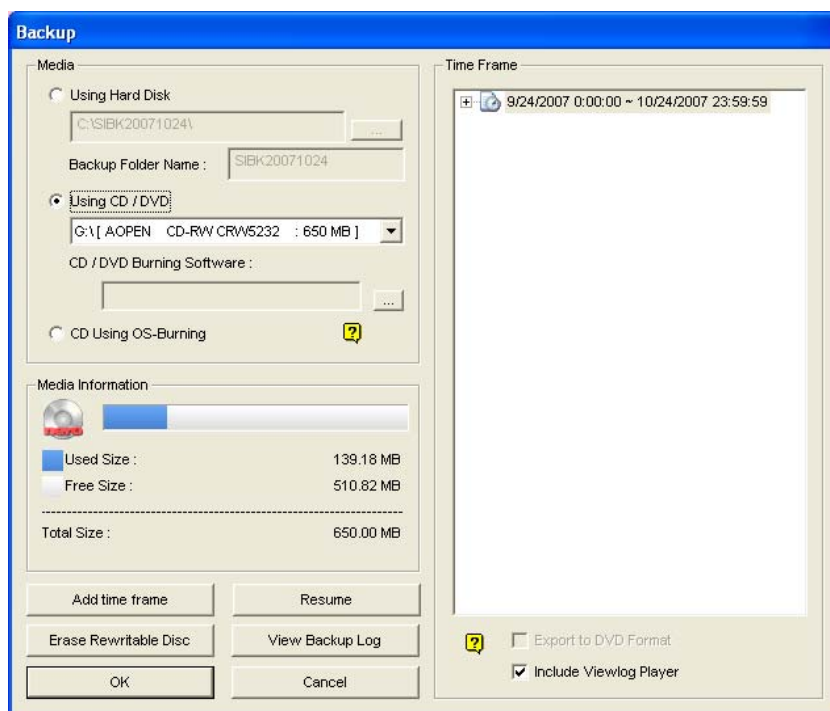

Figure 5-2
5. Click **OK**. The Backup dialog box (Figure 5-2) appears.
- Click the [...] button to assign the desired burning software (.exe file). When you click **OK** on the Backup dialog box (Figure 5-2), the system will ask you to paste the backup files to the CDR-Writer program, and call up the assigned burning software for you to paste and backup files.
2. The **Export to DVD Format** option, at the right bottom of Backup dialog box (Figure 5-2), outputs your files in DVD movie format, meaning that it will play in any DVD player that supports writable DVD disks. To enable this option, MPEG2 files recorded by the GV-2004 Card / GV-2008 Card need to be selected first (see the Select Camera(s) option), and a DVD±RW disk is required as well.